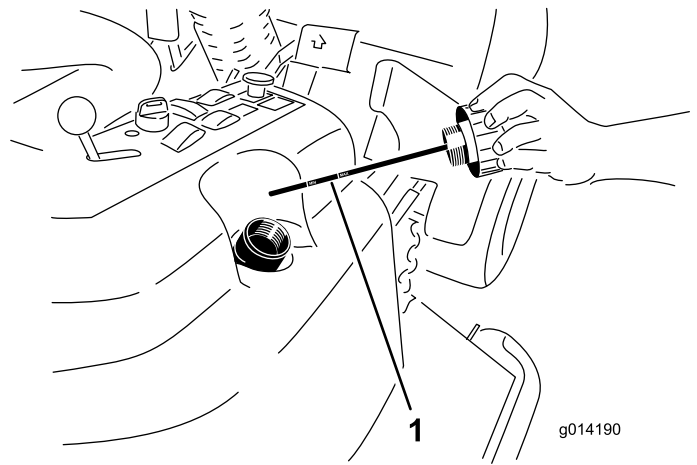

Figure 67
2. Remove the hydraulic fill cap (Figure 67) from filler neck.
3. Remove the dipstick and wipe it with a clean rag (Figure 67).
4. Screw the dipstick all the way into the filler neck; then remove it and check level of fluid (Figure 67).